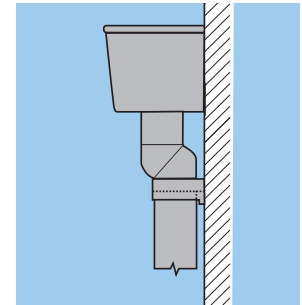

Fig.20b
- Requires 25mm Offset Bend F2314.33.25 for connection to 75mm square downpipe at correct distance from wall (Fig.20b)